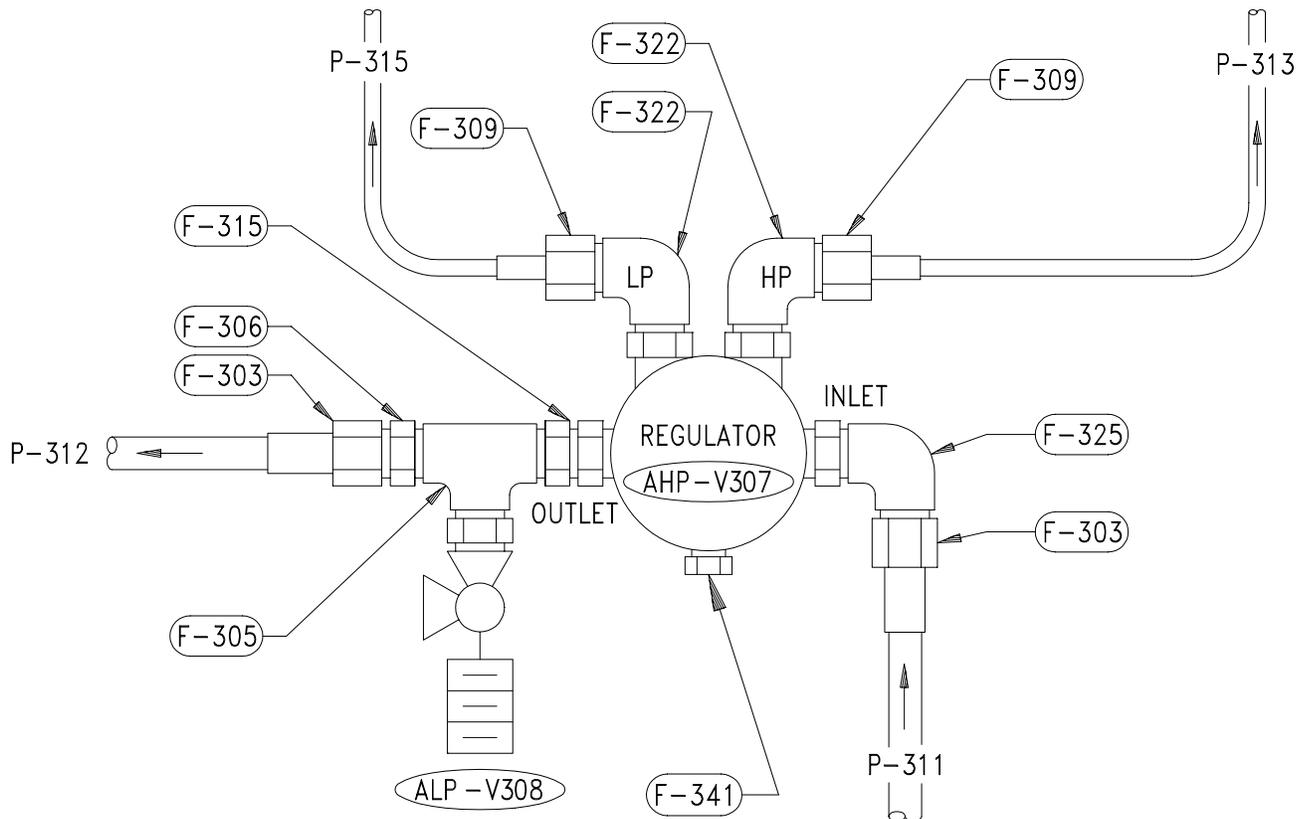

Figure 6-26. Location of Parts Attached to Regulator (AHP-V307)
Refer to Figure 6-26 for the location of parts called out in Steps (6) thru (9) and (11) thru (14). Figure 6-26 reflects a portion of the control console assembly schematic found on JID 6314821, sheet 5.
- (6) **AT HP GAUGE PORT ELBOW (F-322):** Loosen tubing nut (F-309) and remove tubing (P-313) from elbow (F-322). Bag open end of tubing.
- (7) **AT LP GAUGE PORT ELBOW (F-322):** Loosen tubing nut (F-309) and remove tubing (P-315) from elbow (F-322). Bag open end of tubing.
- (8) **AT INLET PORT ELBOW (F-325):** Loosen tubing nut (F-303) and remove tubing (P-311) from elbow (F-325). Bag open end of tubing.
Refer to Figure 6-26 for location of components called out in Steps (2) thru (7) and (9) thru (12).
- (2) **AT VENT PORT:** Remove bagging from bleeder plug (F-341). Using approved lubricant, lubricate one new O-ring (M83248/2-904) and install on bleeder plug (F-341). Install bleeder plug in regulator vent port.
- (3) **AT OUTLET PORT:** Remove bagging from tee (F-305). Using approved lubricant, lubricate new O-ring (M83248/2-908) and install on positionable union (F-315). Using approved lubricant, lubricate new face seal O-ring (M83248/2-111) and install in O-ring groove on tee adapter (F-306). Install positionable union end of tee (F-305) in regulator outlet port and tighten union nut.
- (4) **AT INLET PORT:** Remove bagging from elbow (F-325). Using approved lubricant, lubricate one new O-ring (M83248/2-908) and install on straight threads of elbow (F-325). Install elbow in regulator inlet port.
- (5) Using approved lubricant, lubricate one new face seal O-ring (M83248/2-111) and install in O-ring groove of elbow (F-325).
- (6) **AT HP AND LP GAUGE PORTS:** Remove bagging from the two elbows (F-322). Using approved lubricant, lubricate two new O-rings (M83248/2-904) and install on straight threads of elbows. Install elbows in regulator HP and LP gauge ports.
- (7) Using approved lubricant, lubricate two new face seal O-rings (M83248/2-010) and install in O-ring grooves on LP and HP gauge port elbows (F-322).
Refer to Figure 6-26 for the location of parts called out in Steps (4) thru (7) and (9) thru (12). Figure 6-26 reflects a portion of the control console assembly schematic found on sheet 5 of JID 6314821.
- (4) **AT HP GAUGE PORT ELBOW (F-322):** Loosen tubing nut (F-309) and remove tubing (P-313) from elbow (F-322). Bag open end of tubing.
- (5) **AT LP GAUGE PORT ELBOW (F-322):** Loosen tubing nut (F-309) and remove tubing (P-315) from elbow (F-322). Bag open end of tubing.
- (6) **AT INLET PORT ELBOW (F-325):** Loosen tubing nut (F-303) and remove tubing (P-311) from elbow (F-325). Bag open end of tubing.
- (7) **AT OUTLET PORT TEE (F-305):** Loosen tubing nut (F-303) and remove tubing (P-312) from tee adapter (F-306). Bag open end of tubing.
- (3) **AT OUTLET PORT:** Remove bagging from tee (F-305). Using approved lubricant, lubricate one new O-ring (M83248/2-908) and install on positionable union (F-315). Using approved lubricant, lubricate new face seal O-ring (M83248/2-111) and install in O-ring groove on tee adapter (F-306). Install positionable union end of tee (F-305) in regulator outlet port and tighten union nut.